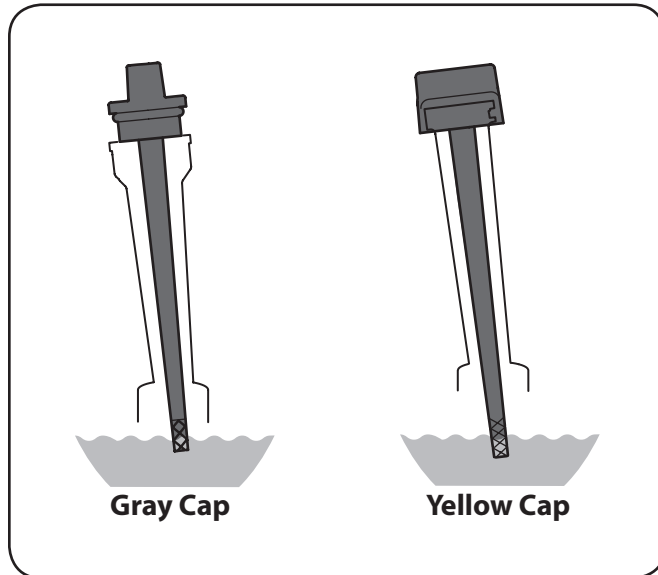

Figure 3-3
2. Insert the cap/dipstick into the oil filler neck, but do not screw it in. See Figure 3-3.